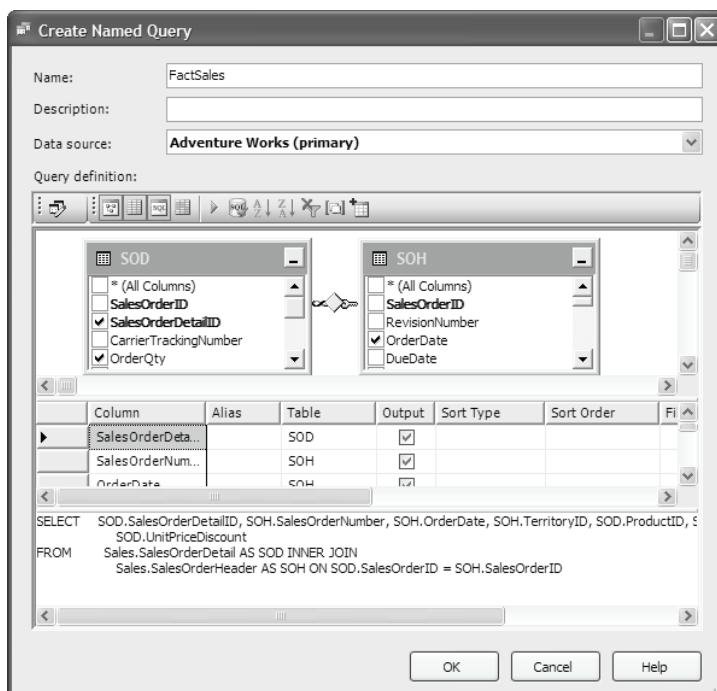

Figure 2.18 Use named queries to create virtual DSV tables that replace the physical tables.
- Right-click on the Diagram pane and choose *Add Table* or click on the Add Table button on the toolbar. On the Add Table dialog, select both the *SalesOrderHeader* (*Sales*) and *SalesOrderDetail* (*Sales*) tables and click the Add button to add the tables to the Diagram pane (see Figure 2.18).